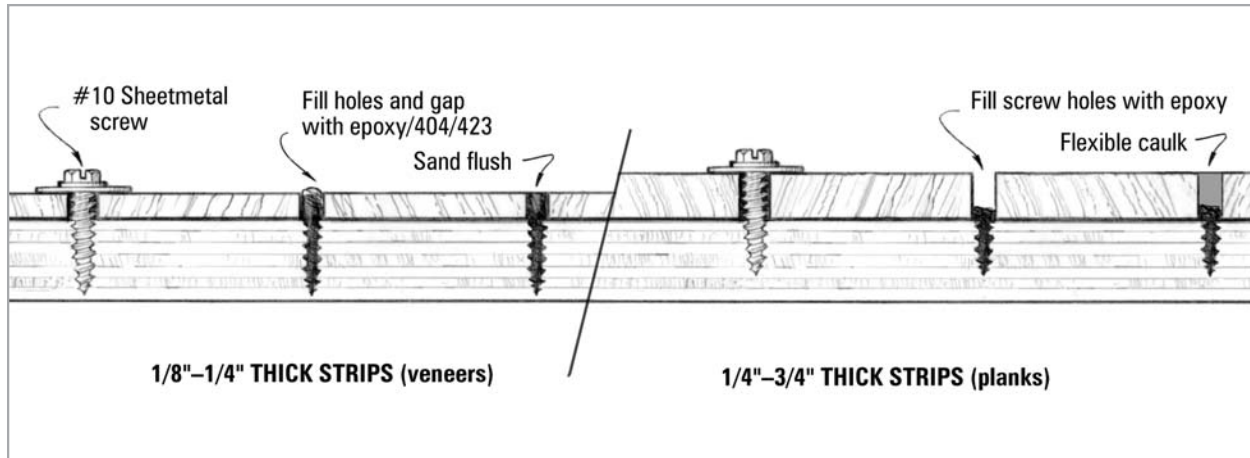

Figure 5-24 Sheet metal screws with large washers will clamp the strips in position until the epoxy/404/graphite mixture cures thoroughly.
6. Clamp the plank in place with #10 sheet metal screws and large washers. Place the screws and washers between the strips, 8" apart. Each row of screws will clamp the edges of two adjoining planks and act as spacers (*Figure 5-24 left*). Coat the screws and washers with a mold release or place a small sheet of plastic under the washers to prevent bonding. Washers may also be cut from stiff plastic, thin wood lathe or similar stock with holes drilled for the screws. Tighten the screws down completely after pushing both adjoining strips tight against the screws. The epoxy mixture should squeeze up between the strips. Any voids between the planks should be filled at this time with the epoxy/404/graphite mixture.
Note: If planks thicker than $\frac{1}{8}$ " are used, do not fill between the planks with thickened epoxy. Instead, remove squeezed-out epoxy between planks and allow to cure. Remove the screws and washers and sand the top surface of the planks fair. Fill the joints with Thiokol or polysulfide caulk (*Figure 5-24 right*).